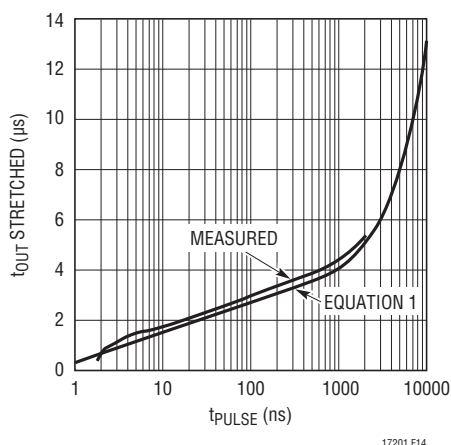

Figure 14. Log Pulse Stretcher Output Pulse vs Input Pulse
The circuit topology itself is extremely fast, limited theoretically only by the speed of the diode, the capture time constant τ_1 and the pulse source impedance. Figure 14 shows results achieved with the implementation shown, compared to a plot of Equation (1). The low end is limited by the delivery time of the upstream comparators. As the input pulse width is increased, the log function is constrained by the asymptotic RC response but, rather than becoming clamped, becomes time linear. Thus, for very long input pulses the third term of Equation (1) dominates and the circuit becomes a 3μs pulse stretcher.
in the two output pulse widths is the per-octave response of your circuit (see Equation (3)). Shorter cable length differences can be used to get a plot of circuit performance down to 1.5ns (if any), which can then later be used as a lookup reference when you have moved from quantifying the circuit to using the circuit. (Note there is a slight aberration in performance below 10ns . See Figure 14.) As a final check, feed the circuit with identical cable lengths and check that it is not producing any output pulses.
This circuit has an ultimate sensitivity of better than 14mV with 5ns to 10ns input pulses. It can even detect an avalanche generated test pulse of just 1ns duration with sensitivity better than 100mV.⁶ It can detect short events better than the coincidence detector of Figure 14 because the one-shot is configured to catch just 100mV of upward movement from C1's V_{OL} , whereas the coincidence detector's 3ns specification is based on a full, legitimate logic high, without the help of a regenerative one-shot.